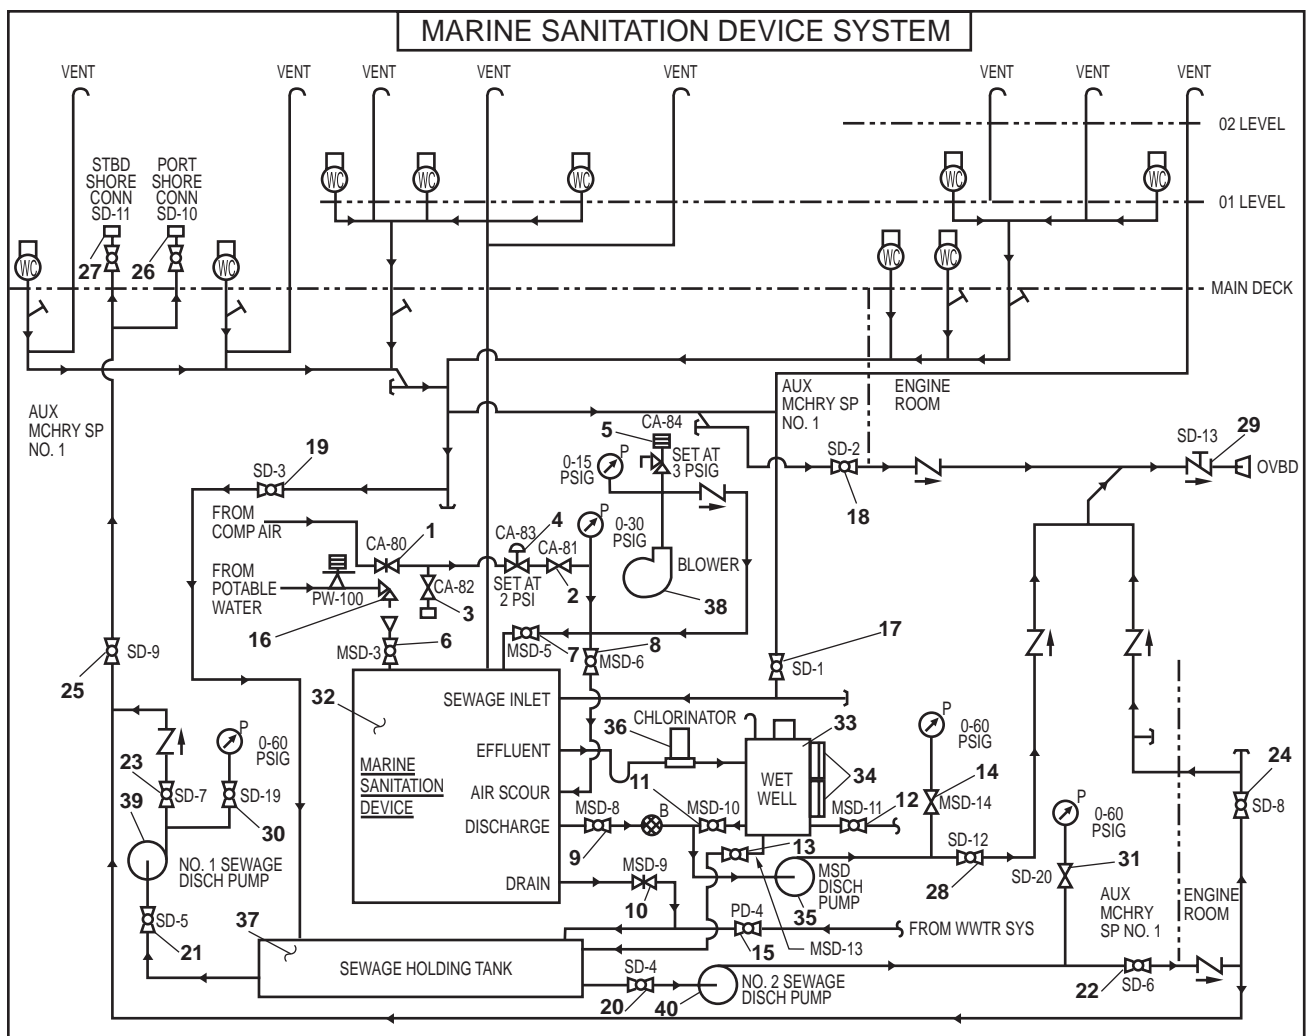
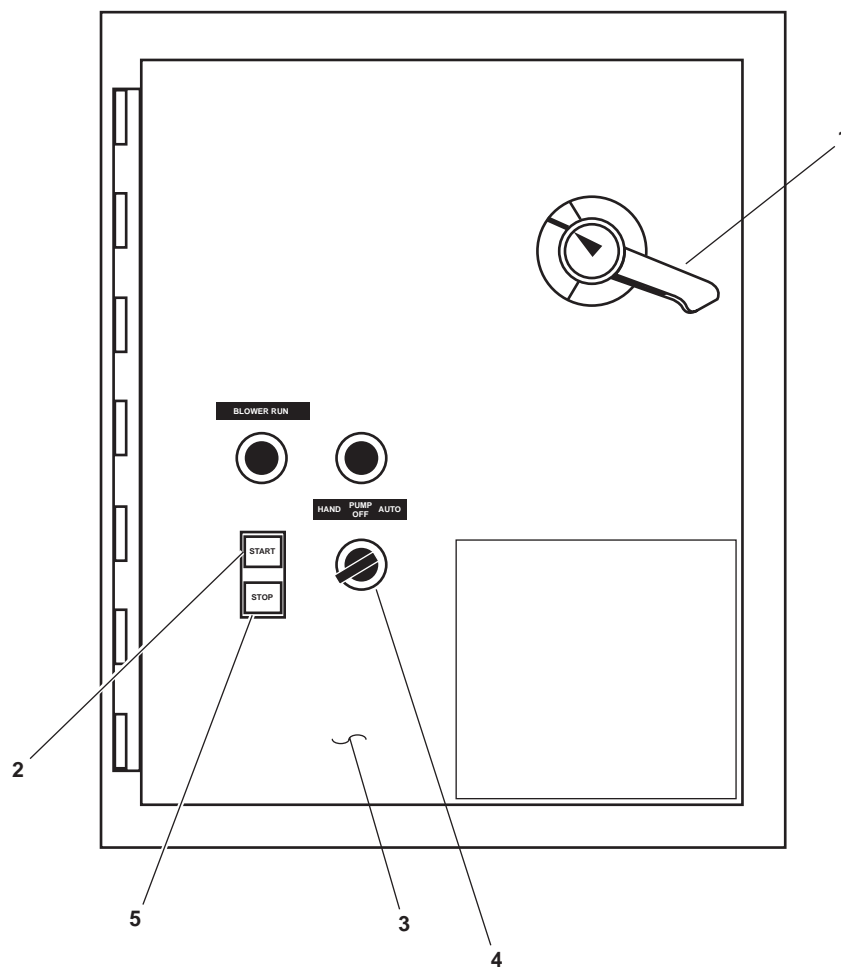
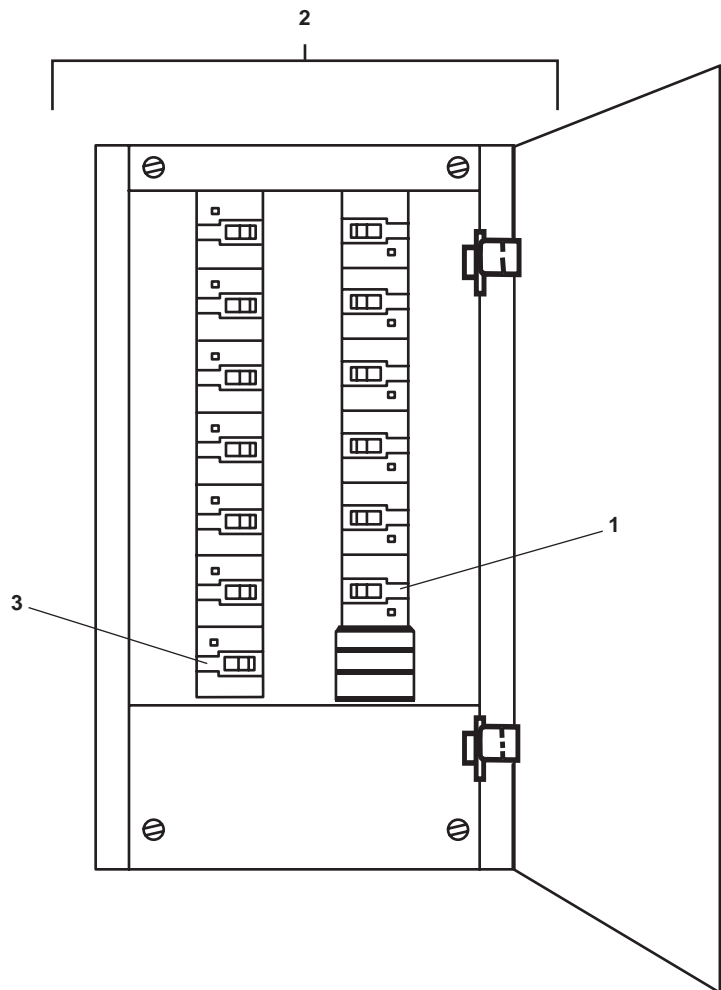

Figure 3. MSD System Schematic
Figure 4. MSD Control Panel
Figure 5. 440V Power Panel No. 1
- a. At 120V emergency distribution panel No. 1, set the BROMINATOR circuit breaker (figure 3, item 2) to ON.
3. Align the valves for the MSD to operate under usual conditions as specified in figure 3 and table 1.
4. OPEN MSD-3 POTW FILL TO MSD ISLN (figure 3, item 6) and PW-100 POTW ISOLATION (figure 3, item 16) valves and fill the media tank (figure 3, item 32) with potable water. Fill the media tank until the water in the wet well (figure 3, item 33) reaches a level halfway up the wet well sight glass (figure 3, item 34).
5. CLOSE MSD-3 POTW FILL TO MSD ISLN (figure 3, item 6) and PW-100 POTW ISOLATION (figure 3, item 16) valves.
6. Ensure that chlorine tablets have been installed in the chlorinator (figure 3, item 36) (TM 55-1925-284-14&P).
7. Set to ON the MSD control panel master switch (figure 4, item 1).
8. Press the START button (figure 4, item 2) on the MSD control panel (figure 4, item 3) to start the blower (figure 3, item 38).
9. Set the PUMP HAND/OFF/AUTO switch (figure 4, item 4) on the MSD control panel (figure 4, item 3) to AUTO.
10. Verify that SD-1 SEWAGE INLET TO MSD (figure 3, item 17) valve is OPEN to allow sewage to flow into the media tank (figure 3, item 32).
3. Align the valves for the sewage holding tank to shore connection as specified in figure 3 and table 2.
5. To operate sewage discharge pump No.1 (figure 3, item 39), set to ON the SEWAGE DISCHARGE PUMP No. 1. circuit breaker (figure 5, item 1) in the 440V power panel No. 1 (figure 5, item 2).
6. OPEN SD-5 (figure 3, item 21), SD-7 (figure 3, item 23), SD-9 (figure 3, item 25), SD-19 (figure 3, item 30). To pump to the port shore connection, OPEN SD-10 (figure 3, item 26). To pump to the starboard shore connection, OPEN SD-11 (figure 3, item 27).
7. To operate sewage discharge pump No. 2 (figure 3, item 40), set to ON the SEWAGE DISCHARGE PUMP No. 2. circuit breaker (Figure 5 item 3) in the 440V power panel No. 1 (Figure 5, item 2).
8. OPEN SD-4 (figure 3, item 20), SD-6 (figure 3, item 22), SD-9 (figure 3, item 25), and SD-20 (figure 3, item 31). Ensure that SD-8 (figure 3, item 24) is CLOSED. To discharge to the port shore connection, OPEN SD-10 (figure 3, item 26). To pump to the starboard shore connection, OPEN SD-11 (figure 3, item 27).
14. Set to OFF the SEWAGE DISCHARGE PUMP No. 1. circuit breaker (figure 5, item 1) and SEWAGE DISCHARGE PUMP No. 2. circuit breaker (figure 5, item 3) in 440V power panel No. 1 (figure 5, item 2).
- a. UNIT HEATER BOWTHRUSTER. (figure 5, item 1)
- b. AUXILIARY MACHINERY SPACE No. 1. UNIT HEATER. (figure 5, item 2)
- c. AUXILIARY MACHINERY SPACE No. 1. SUPPLY FAN. (figure 5, item 3)